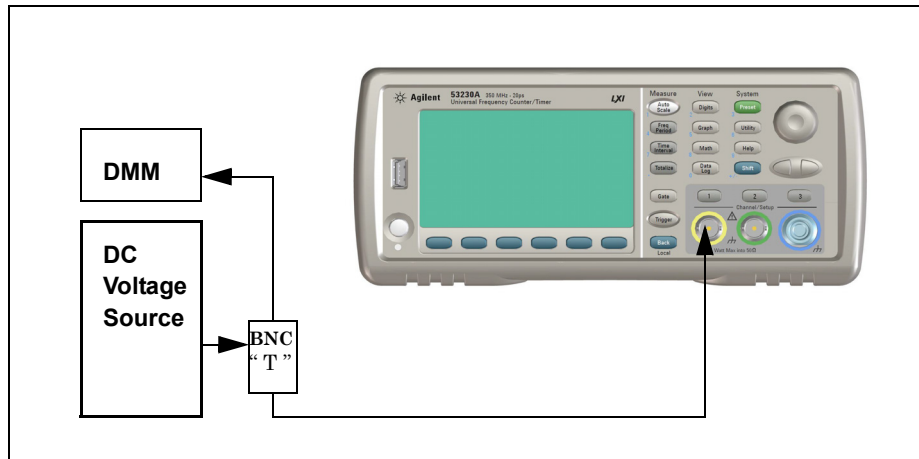

Figure 2-6. DC Voltage Source and DMM Connections
- 10 Connect the DC voltage source to Channel 1 on the counter front panel as shown in Figure 2-6.